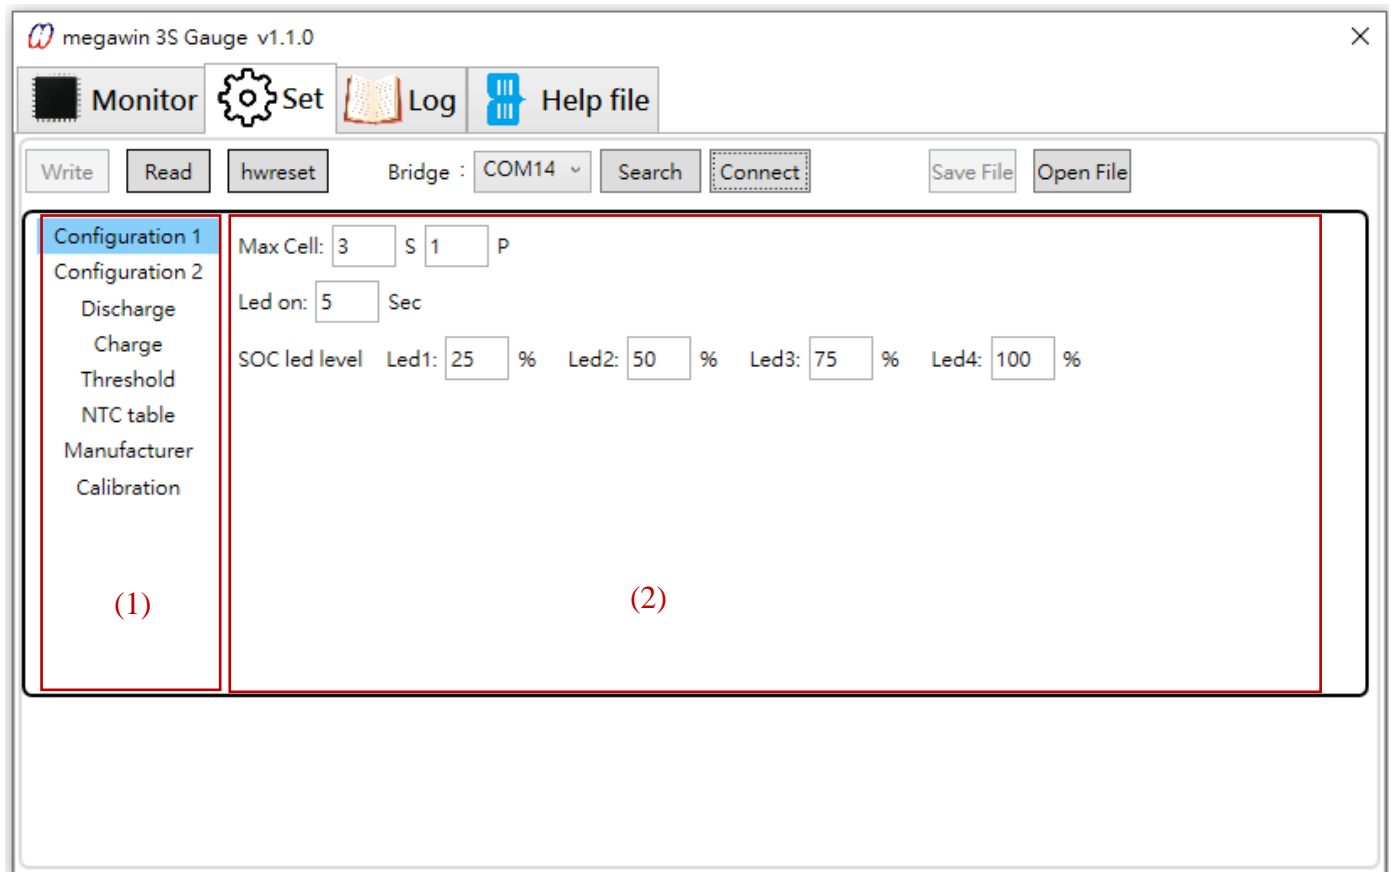

Figure 2-8 Selection Block and Display Block
As shown in Figure 2-8 (1), there are eight categories of options, which are mainly for setting the system parameters required for MCU operation. When the options of the selected block are changed, the contents on the display block (labeled 2 below) will also be changed synchronously.